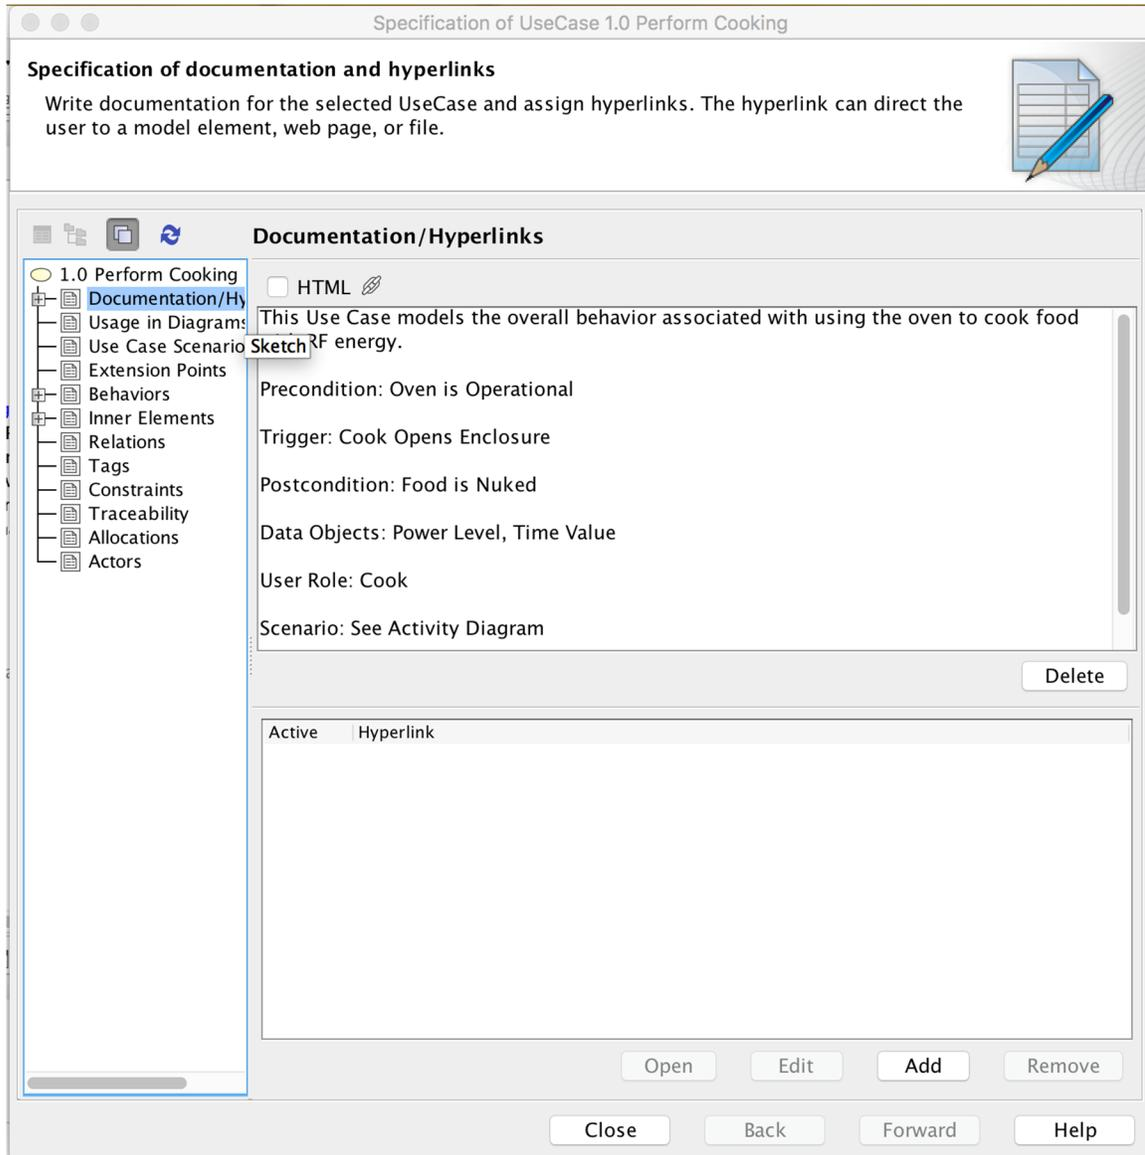

Figure 26. Use Case Specification
- The MBSAP methodology calls for three kinds of related model content to fully define a UC: (a) the UC itself, in a UC Diagram, (b) an Element Specification for the UC, and (c) a behavior Diagram showing the UC scenario(s). Fig. 26 shows a UC specification following a standard template from Borky and Bradley that is entered in the Documentation window of the Specification for UC 1.0. Some of this content is optional, but collectively this is a full description of the UC behavior from which system designers can proceed to implementation. Having all this in the UC Specification simplifies generating a report from the model that documents the UCs. It's also a good idea to explicitly identify the requirements that this behavior satisfies. Right click the UC, select Specification, open the Documentation window, and enter the information.